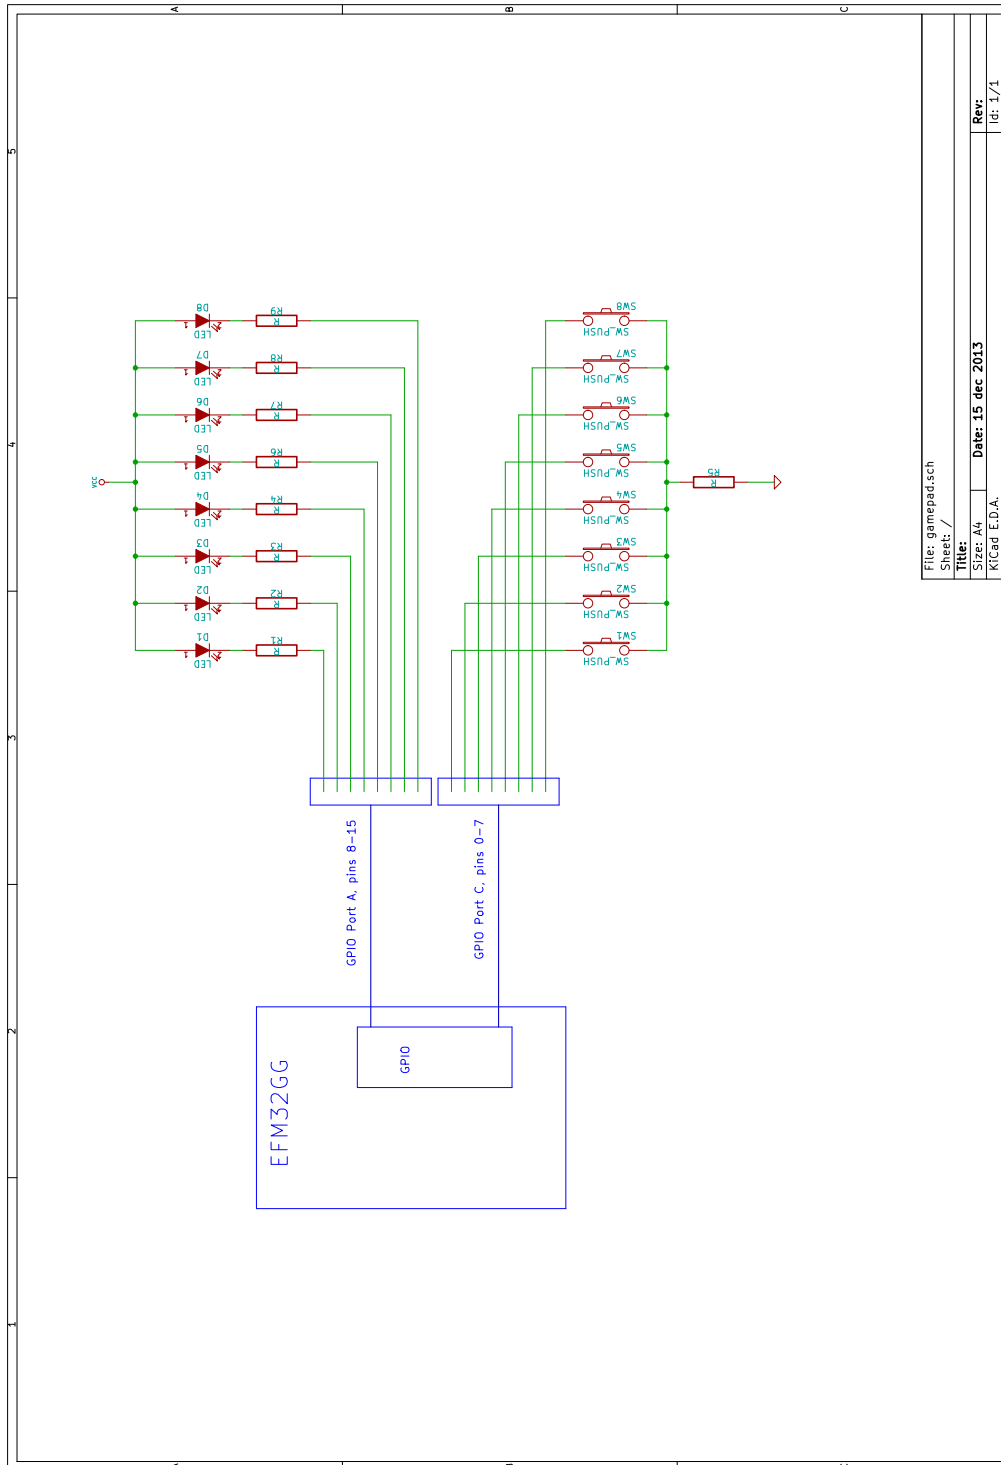

Figure 3.6.: Gamepad simplified schematics
The GPIO pins of the microcontroller is exposed on the connectors on the prototyping board. This gamepad must, therefore, be connected to the prototyping board, as was shown in figure 2.1. When connected like that, figure 3.6 shows the schematic in detail. Note that no external pull-up resistors² are present for the buttons, the internal pull-ups of the EFM32GG must therefore be used in order to correctly read logical high when buttons are released.
- Pins 8-15 can now be set high or low by writing to bits 8-15 of GPIO_PA_DOUT. The LEDs are active-low, as can be seen in the gamepad schematics in figure 3.6.